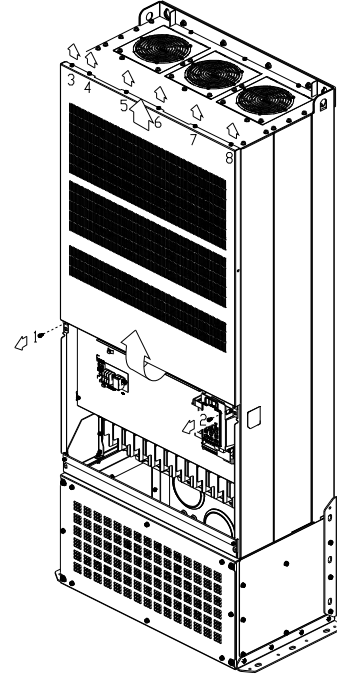

Figure 2
- Loosen the screw and remove the top cover (figure 2). Screw torque: 24–26kg-cm / [20.8–22.6 lb-in.] / [2.4–2.5 Nm]